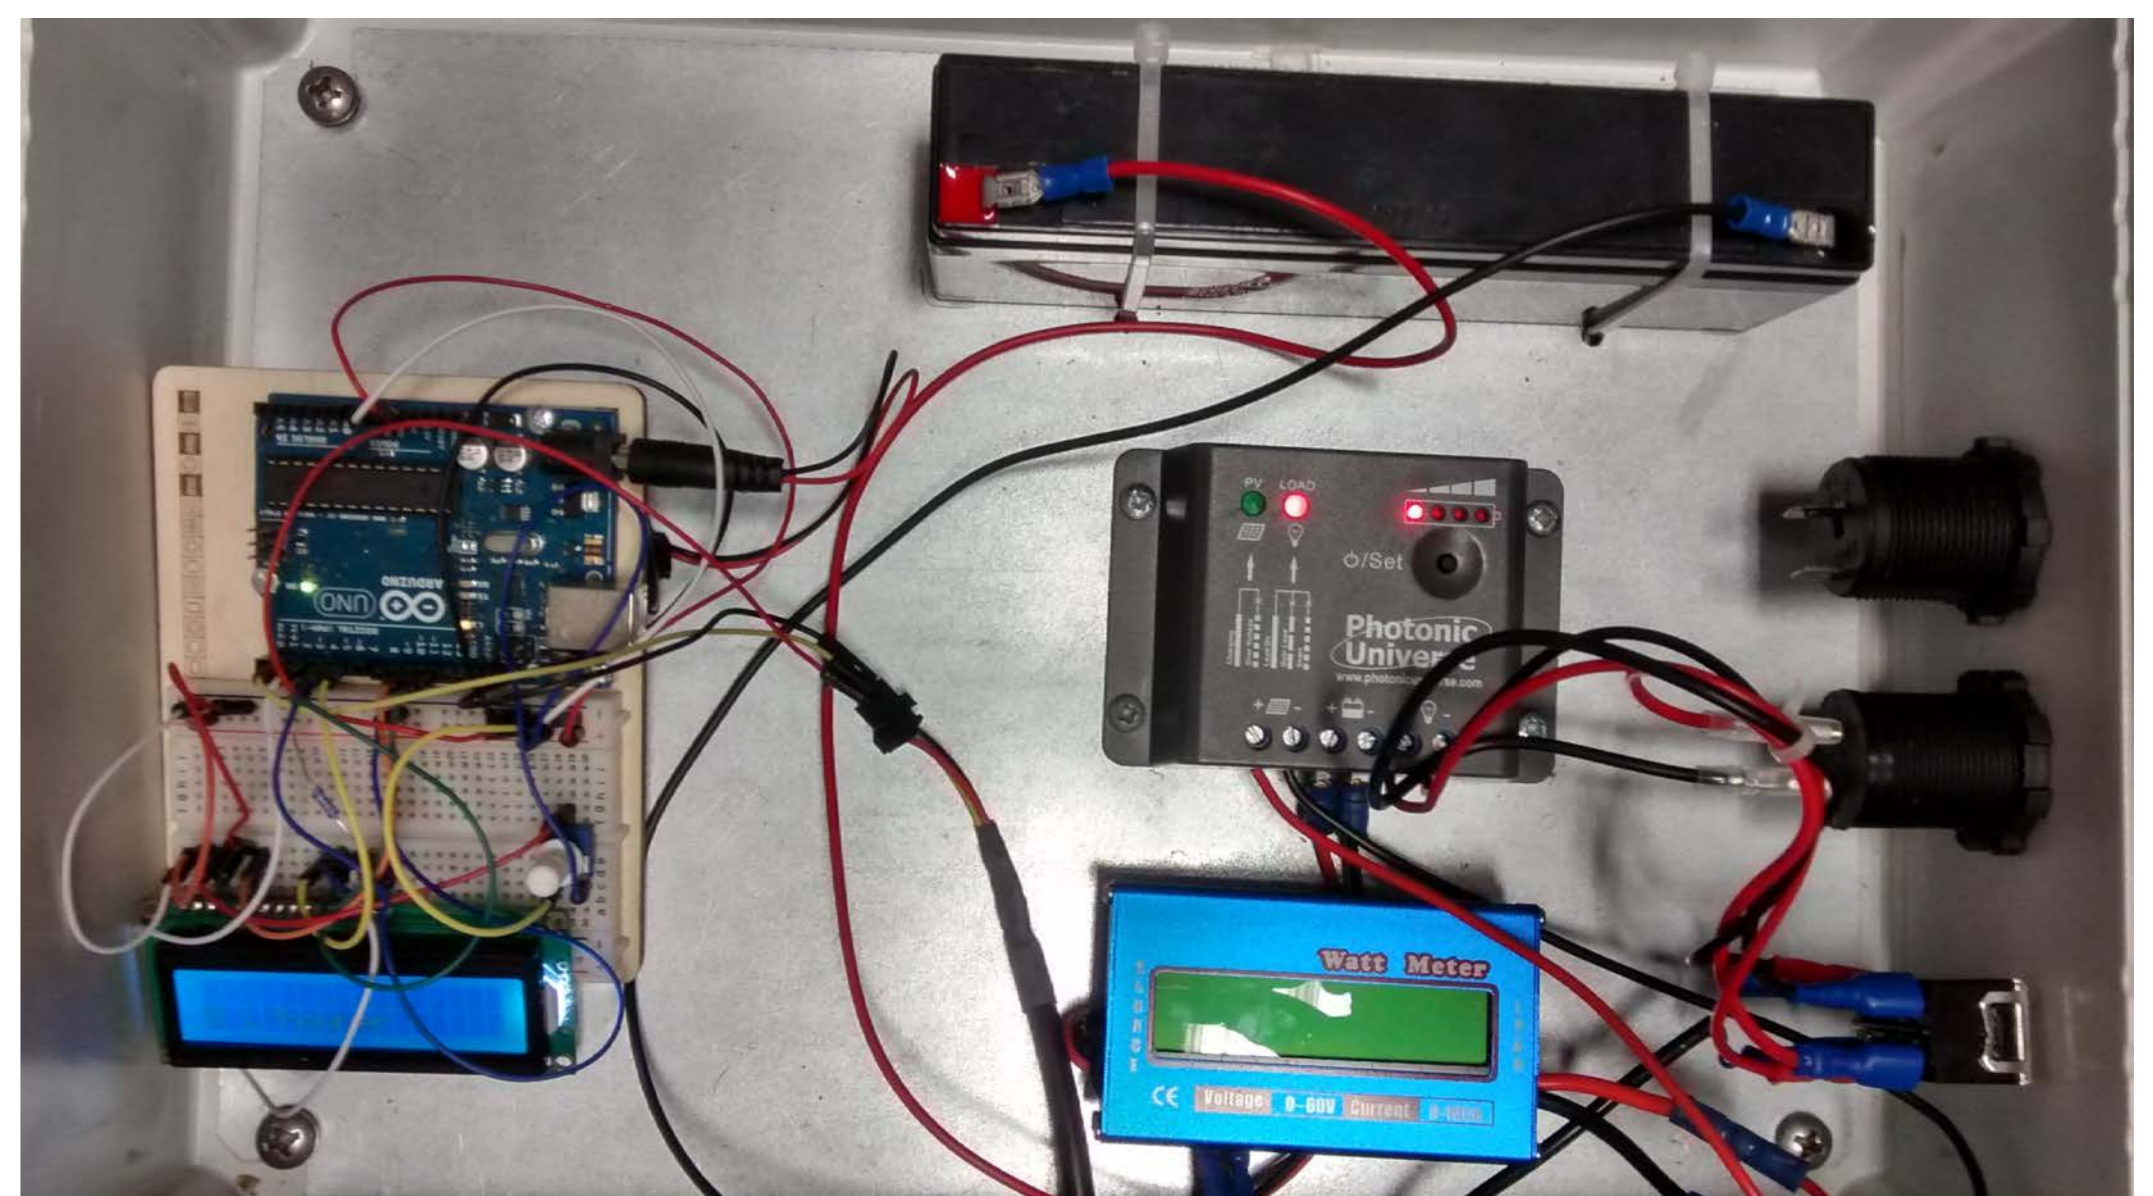

Figure 2, solar water pump monitoring prototype
- Construct solar water pump and test monitoring systems. See figure 2.